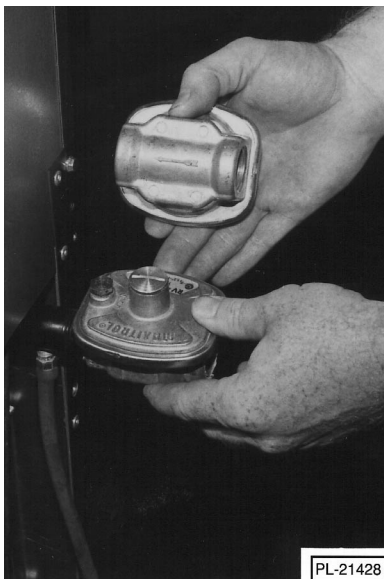
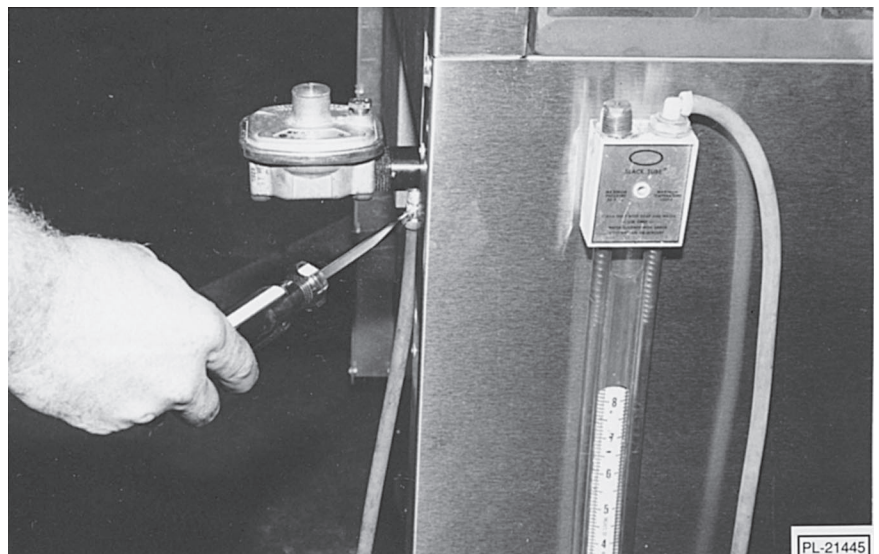

Fig. 7
Fig. 8
3. Screw regulator hand-tight onto pipe with regulator arrow pointing towards range body back(see Fig. 7).
4. Using pipe wrench, tighten regulator securely in an upright position (see Fig. 7).
The arrow on the regulator shows the direction of the gas flow (Fig. 7). While connecting the range to the gas supply, the pressure regulator must be mounted horizontally to ensure proper preset outlet pressure. If the regulator is reinstalled in any other position, the outlet pressure must be reset (Fig. 8).